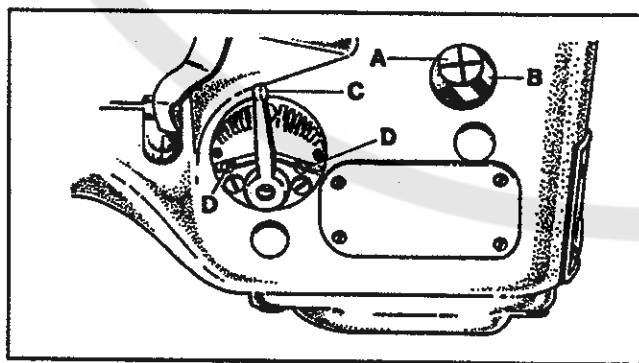

FIG. 18
This machine is designed to sew 10 to 16 stitches per inch. The normal factory setting is 12 stitches per inch. To change the stitch length remove the plug screw located directly above the cylinder side cover. Loosen screw (A, Fig. 18) in lever (B) and move up to increase the stitch length or down to decrease the stitch length. Tighten screw (A) and replace the plug screw.
The amount of differential feed is controlled by lever (C, Fig. 18). The adjusting plate is numbered from 1 to 9. When the lever is set from numbers 1 to 4 reverse differential or stretching occurs. The numbers from 4 to 5 produce equal feed stitching while numbers 5 to 9 produce a gathering stitch. The two stop screws (D) can be set to limit the movement of lever (C) or lock the lever in one position.